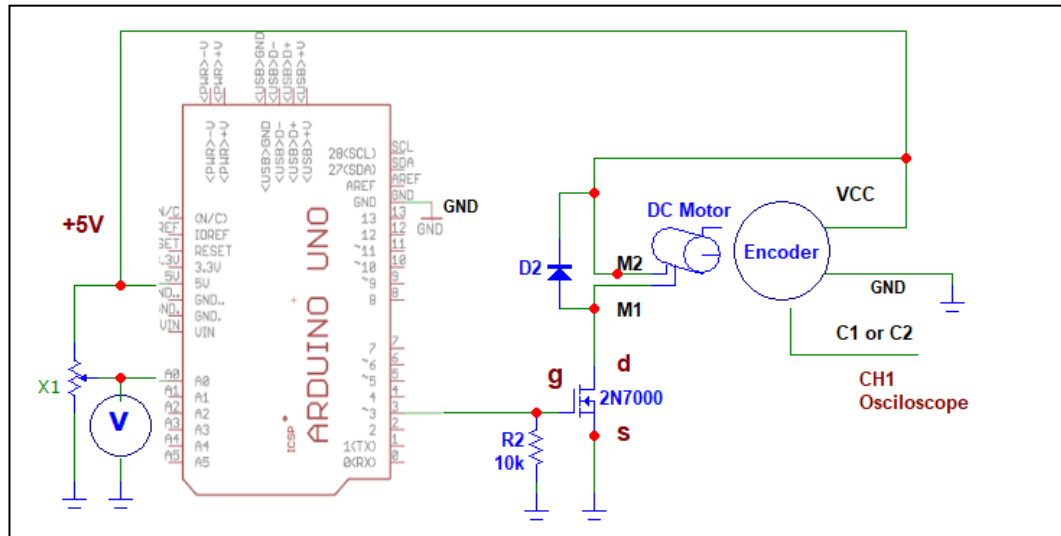

Figure 4.11. DC motor control circuit diagram
2.2. Connect the 10k Potentiometer to the power supply of the Arduino and connect the slider to the Analog Input pin A0, as it is shown in Figure 4.11.
- 3.1. Without changing the circuit of Figure 4.11 upload the Serial Monitor Control code from the tutorials to the Arduino board.